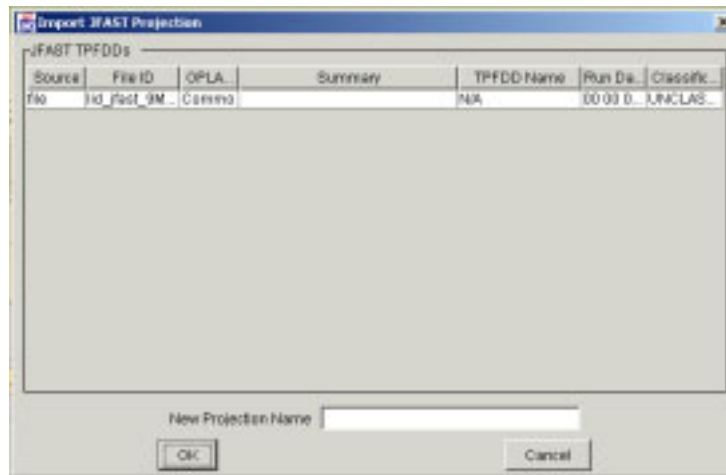

Figure 5.36 Import JFAST Projection Window
1. On the ETEdit window, on the File menu, click Import JFAST Projection. The Import JFAST Projection window opens (Figure 5.36).